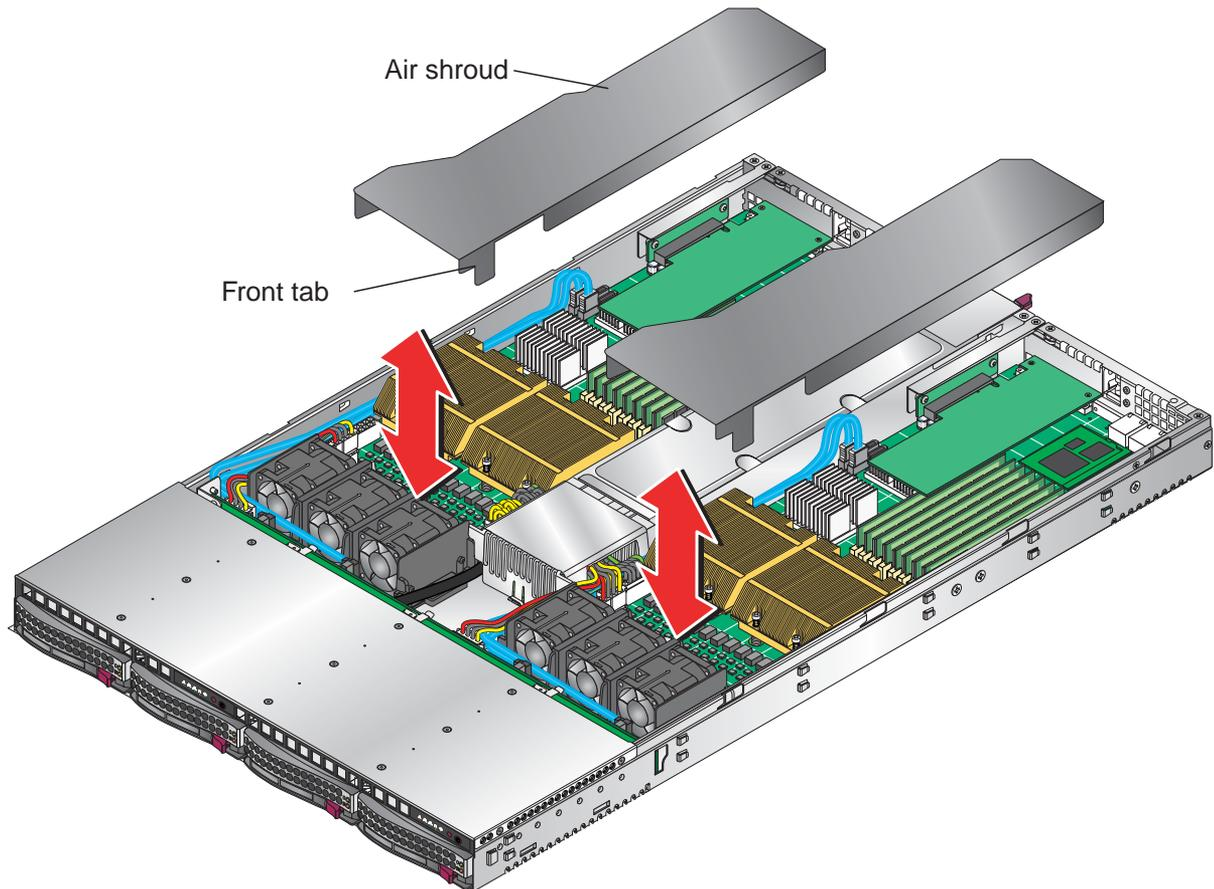

Figure 4-8 Install Air Shrouds
1. Position each air shrouds as shown in Figure 4-8.